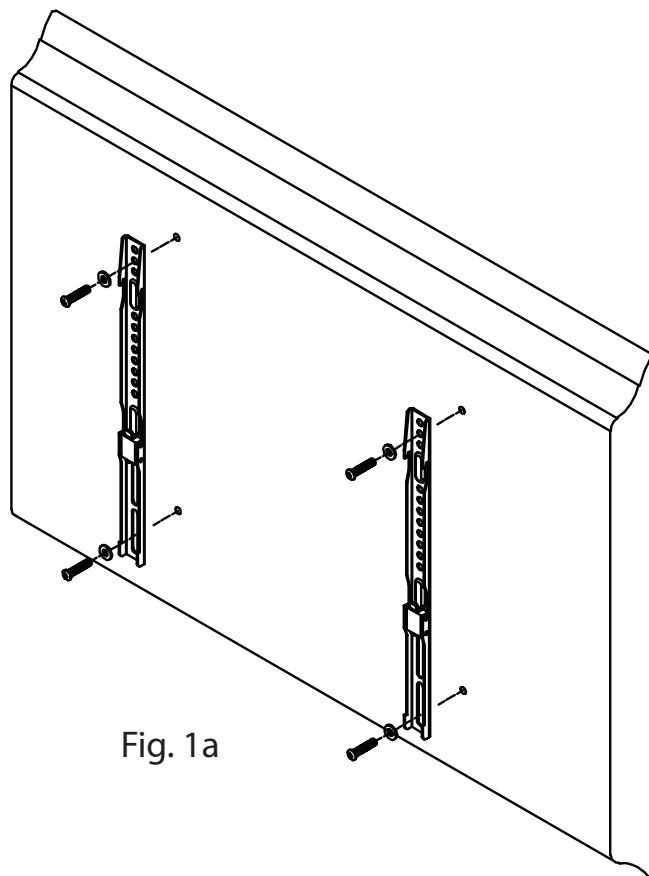

Fig. 1a
Center the Brackets (2) vertically on the rear of the TV. Attach the Brackets (2) to the rear of the TV using four of the bolts (D-K) with the proper size washers (L-M) as shown in Fig. 1a. Tighten using the Allen Wrench (N). Do not over tighten.